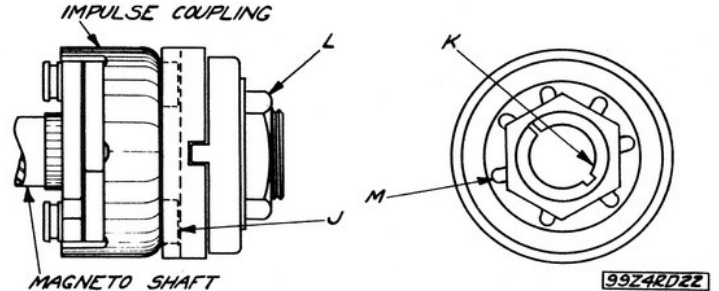

Figure 4 - Drive Member For Base Mounted Magnetos
12. **CONNECTING BASE MAGNETO TO ENGINE** - A separate drive member is used as shown in Fig. 4. Keep the engine and magneto in the positions determined under methods (I) or (II) of Paragraph 10. Assemble the drive member on the engine drive shaft by first loosening the drive collar nut (L), then slipping the collar (K) on the shaft, being certain that the shaft key is in place. The drive member slots should then be lined up with the impulse coupling lugs of the magneto and the locking nut (L) tightened. Bend up the locking lugs (M) around the nut to prevent the loss of the proper timing position through loosening of the nut.